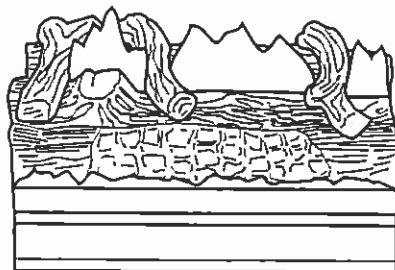

Figure 18
**Rear Burner Flame Characteristics**—The rear flames should be yellow. The flames should extend about 3 – 4" above the front log for natural gas and 2 – 3" above for propane (L.P.G.) gas (Figure 18).
**Main Burner**—The flames at the front burner holes will be blue becoming yellowish as they hit the bark-like texture of the base and front face of the front log (Figure 18).